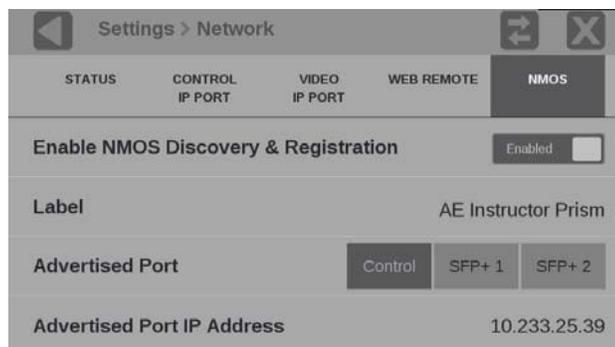

Figure 46: NMOS discovery and registration enabled
3. Move the **Enable NMOS Discovery & Registration** control to **Enabled** or **Disabled**. (See Figure 46.)